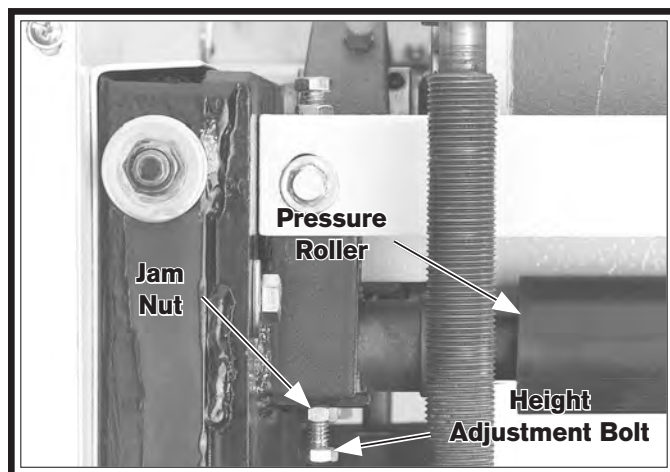

Figure 46. Location of pressure roller height bolts and jam nuts.
4. Beginning with front pressure roller, loosen jam nuts on pressure roller height adjustment bolts (see Figure 46).